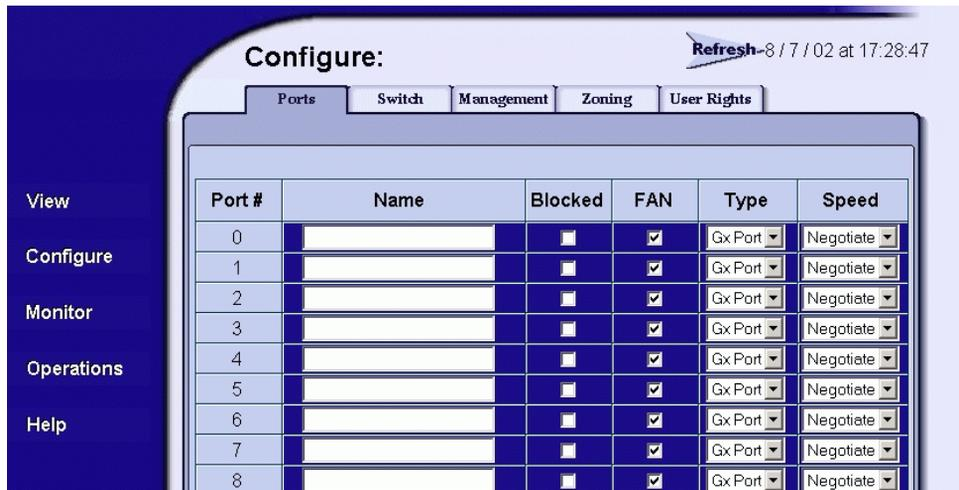

Figure 2-3: Block or unblock a port from the Configure window
- b. Choose the check box in the **Blocked** column to block or unblock a port (default is unblocked). A check mark in the box indicates the port is blocked. Blocking a port prevents the attached device from communicating with the switch. A blocked port continuously transmits the offline sequence (OLS), as shown in Figure 2-3.